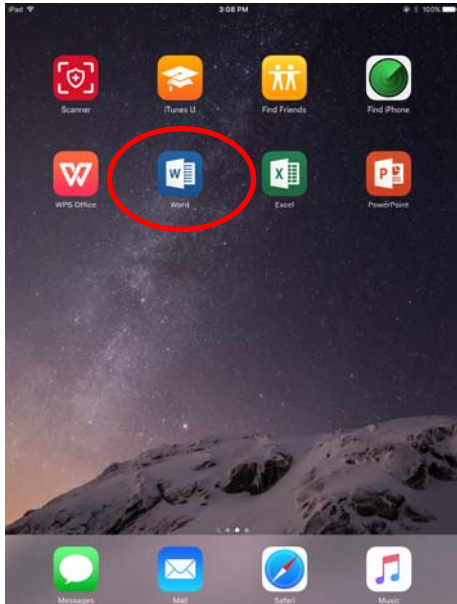

Figure 37
2.1 Install and run "Word", as shown in Figure 37.